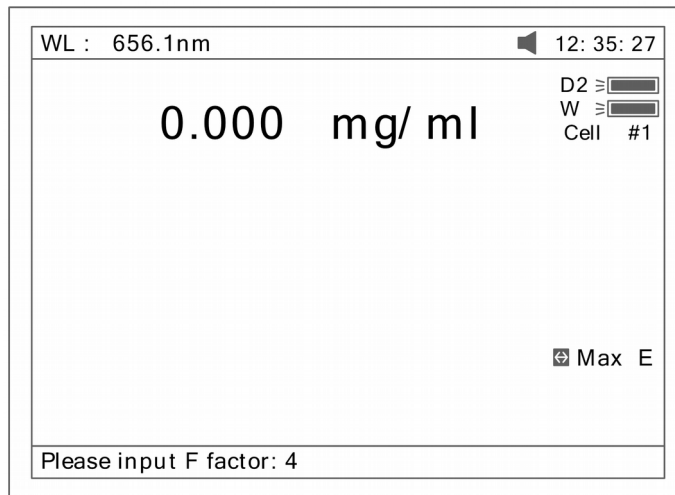

Fig 23
4.1 Press **(F3)** to input known F value, Fig 23. Then push the sample into Main Light Path to take reading of concentration.